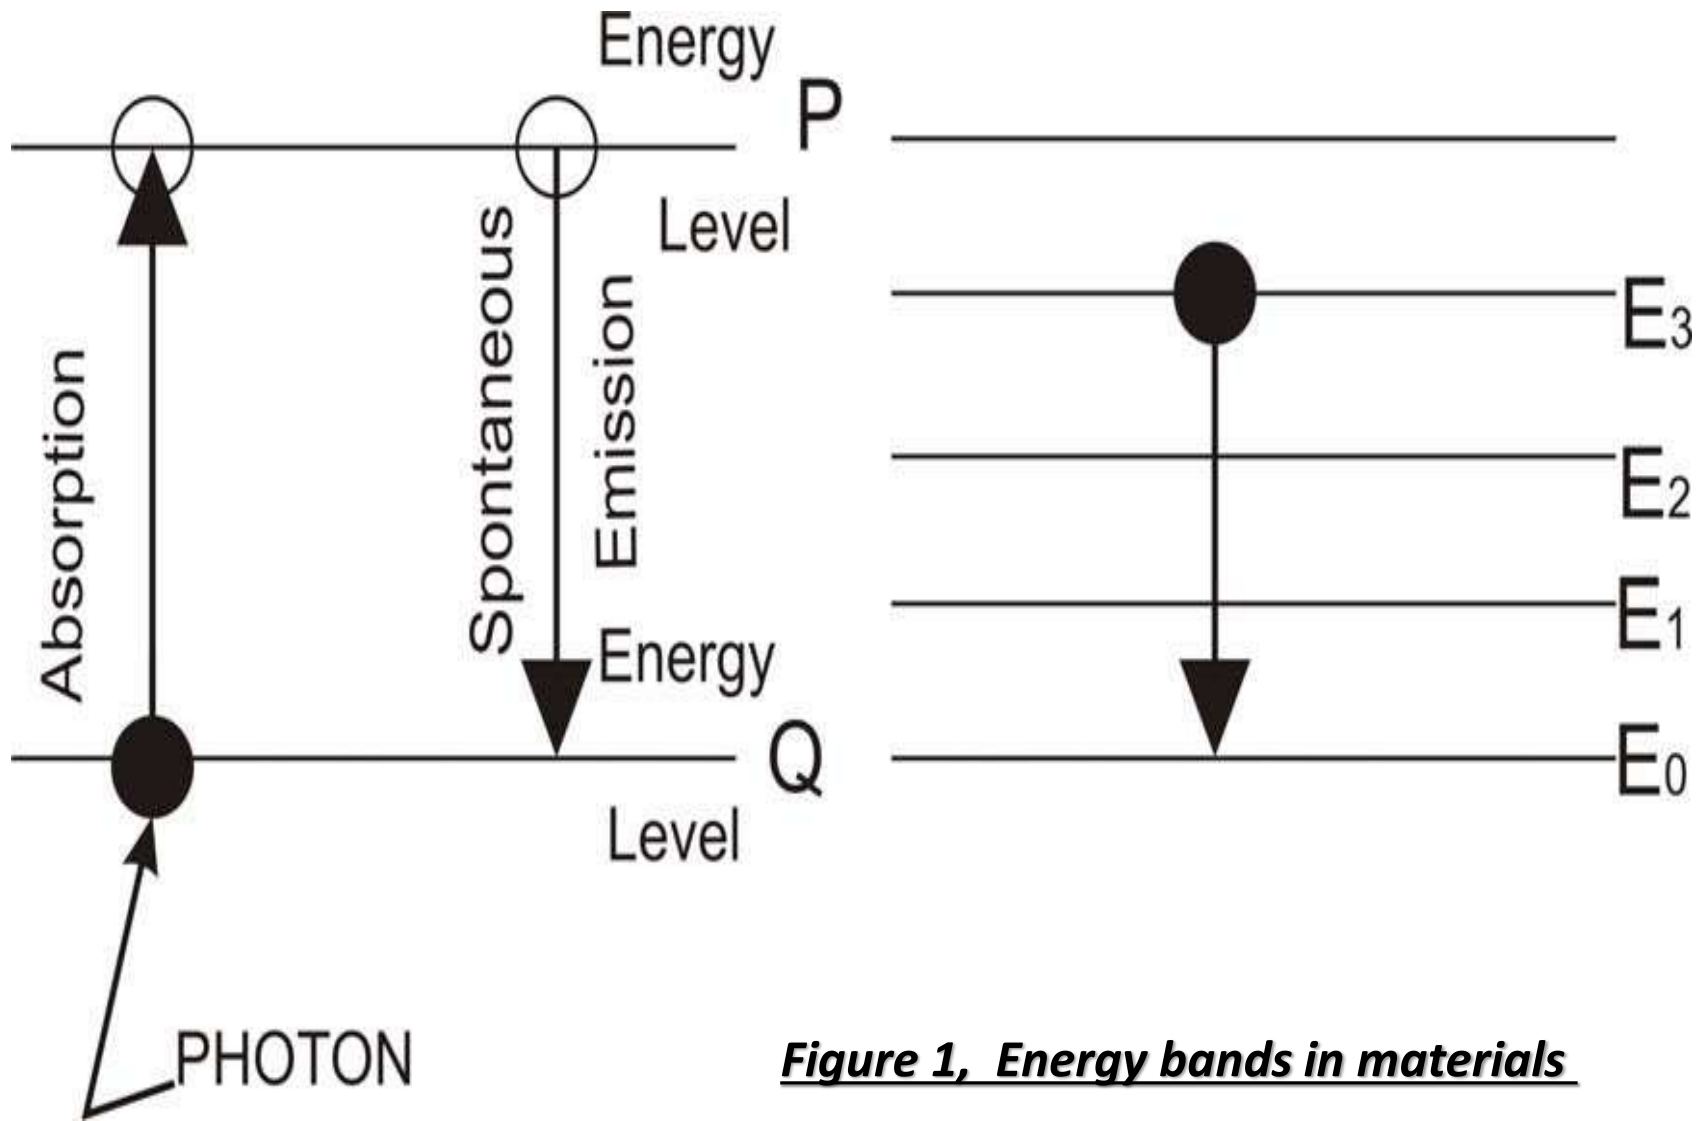
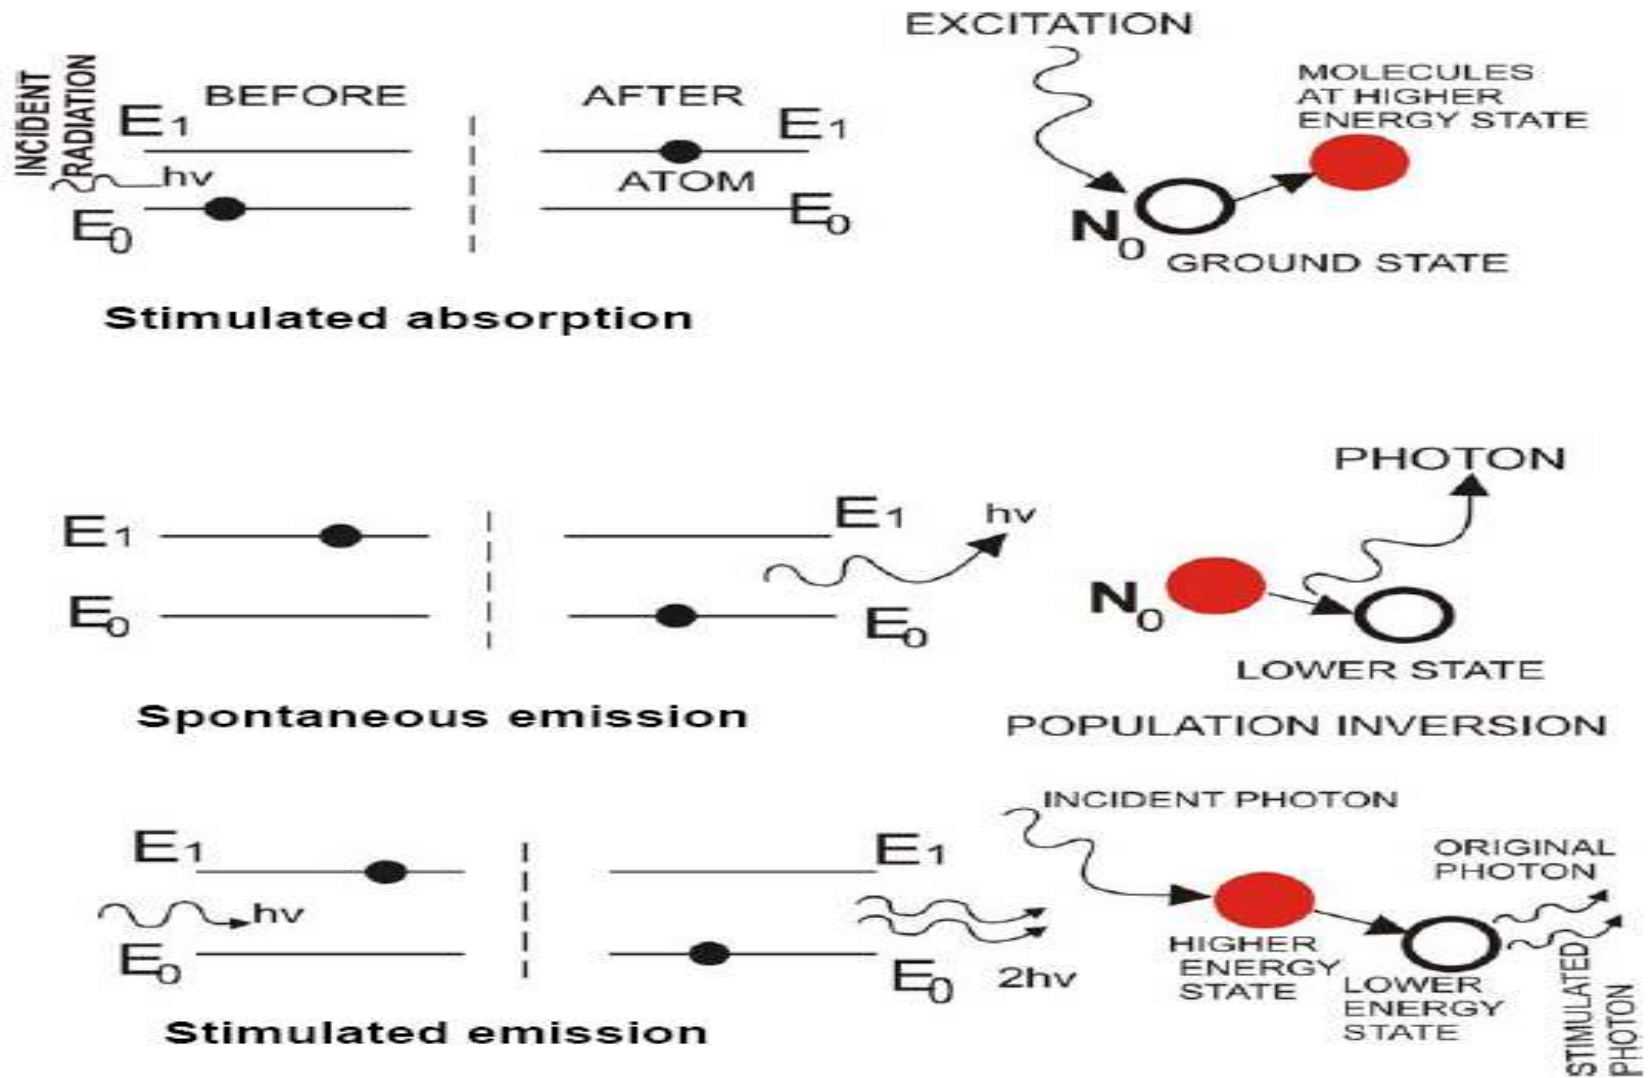

Figure 1, Energy bands in materials
Fig. 2 Spontaneous and Stimulated emissions
- Fig. 1 depicts schematically the absorption of a photon by an electron. The electron moves from a lower energy level to a higher energy level.
- Schematically the same is shown in Fig. 1 and Fig. 2. The spontaneously emitted photon would have the same frequency as that of the “exciting” photon.
- Such electrons, at higher energy meta-stable state, can return to the ground state in the form of an avalanche provided stimulated by a photon of suitable frequency or energy. This is called **stimulated emission**. Fig.2 shows one such higher state electron in meta-stable orbit.